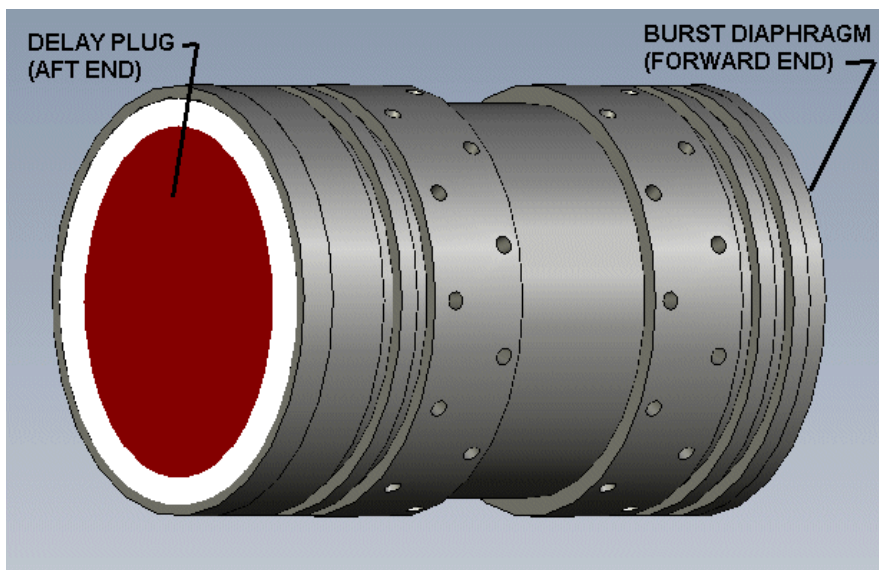

Figure 2 – Mid-bulkhead assembly, indicating Delay Plug (aft end) and Burst Diaphragm
1. Remove protective cover and poly wrap from Burst Diaphragm end of Mid-bulkhead. Leave protective poly wrap in place over Delay Plug (see Figure 2).